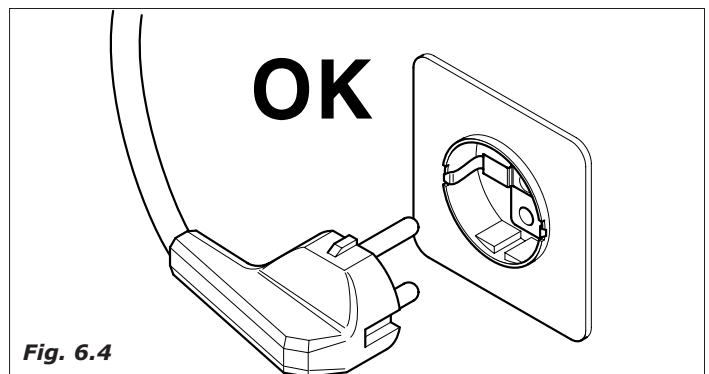

Fig. 6.4
- The distributor is equipped with a power supply cable of H05VV-F 3x1,5mm², with SCHUKO plug (Fig.6.4).